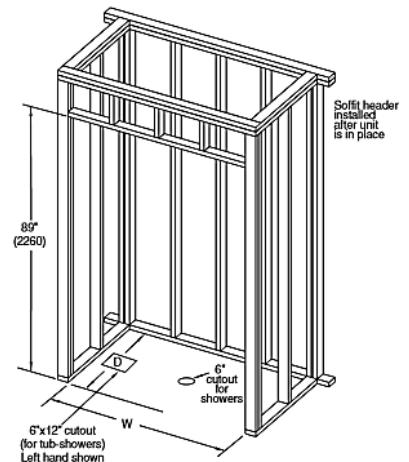

Fig. 1 Framing
- 6" (150) diameter floor opening for 2" (50) IPS and drain connection [Fig. 1] for shower unit.
- 6" x 12" (150 x 305) diameter floor opening for drain and overflow plumbing [Fig. 1] for tub-shower unit. Be sure hole location matches type of tub-shower: left or right hand unit.
6. Level unit for proper drainage. Use a 3' (915) long level on top of dam and on front face. Shim where necessary to assure level unit, or depress grout mounds until level.
7. Install soffit header above unit as shown in Fig. 1.
8. Using holes provided, screw [do not nail] unit to framing. For wood framework, use #8 x 1 1/2" (40) flathead wood screws. For metal framework, use #8 x 1 1/2" (40) sheet metal screws. Start at holes at lower left and right, proceeding upward alternately on each side and across the top. Drive screws snugly but do not overtighten. **CAUTION:** Do not nail into face of mounting flange. Do not strike flange with any tool. Striking unit may cause irreparable damage.